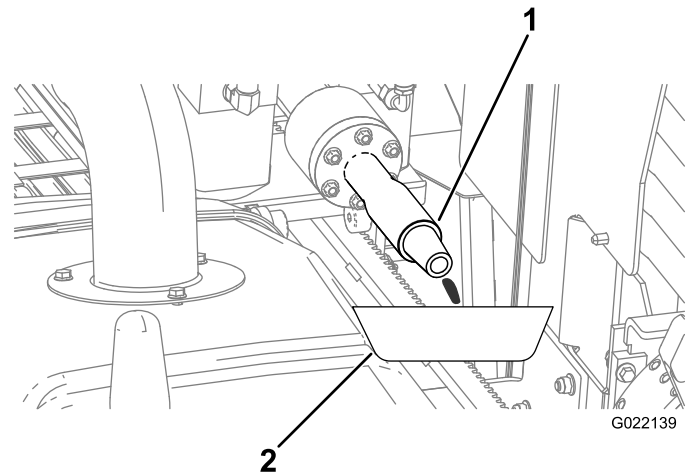

Figure 127
- A. Place a drain pan under the drill spindle for the leaked antifreeze (Figure 127).
E. When the antifreeze comes out of the drill spindle (Figure 127), turn the pump off.